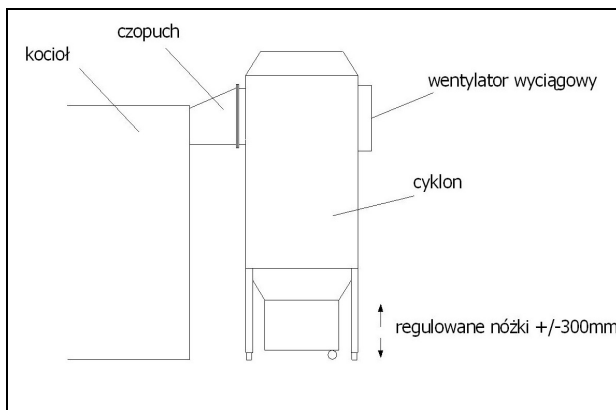

Fig. 8 Boiler with installed multicyclone
6. If to the smoke conduit is to be connected multicyclone, connect the smoke conduit to the cyclone with the enclosed screws (M10 or M12); setting the cyclone against boiler is possible using the adjustable legs (fig.8) Depending on the cyclone mode it may be attached directly to the boiler.